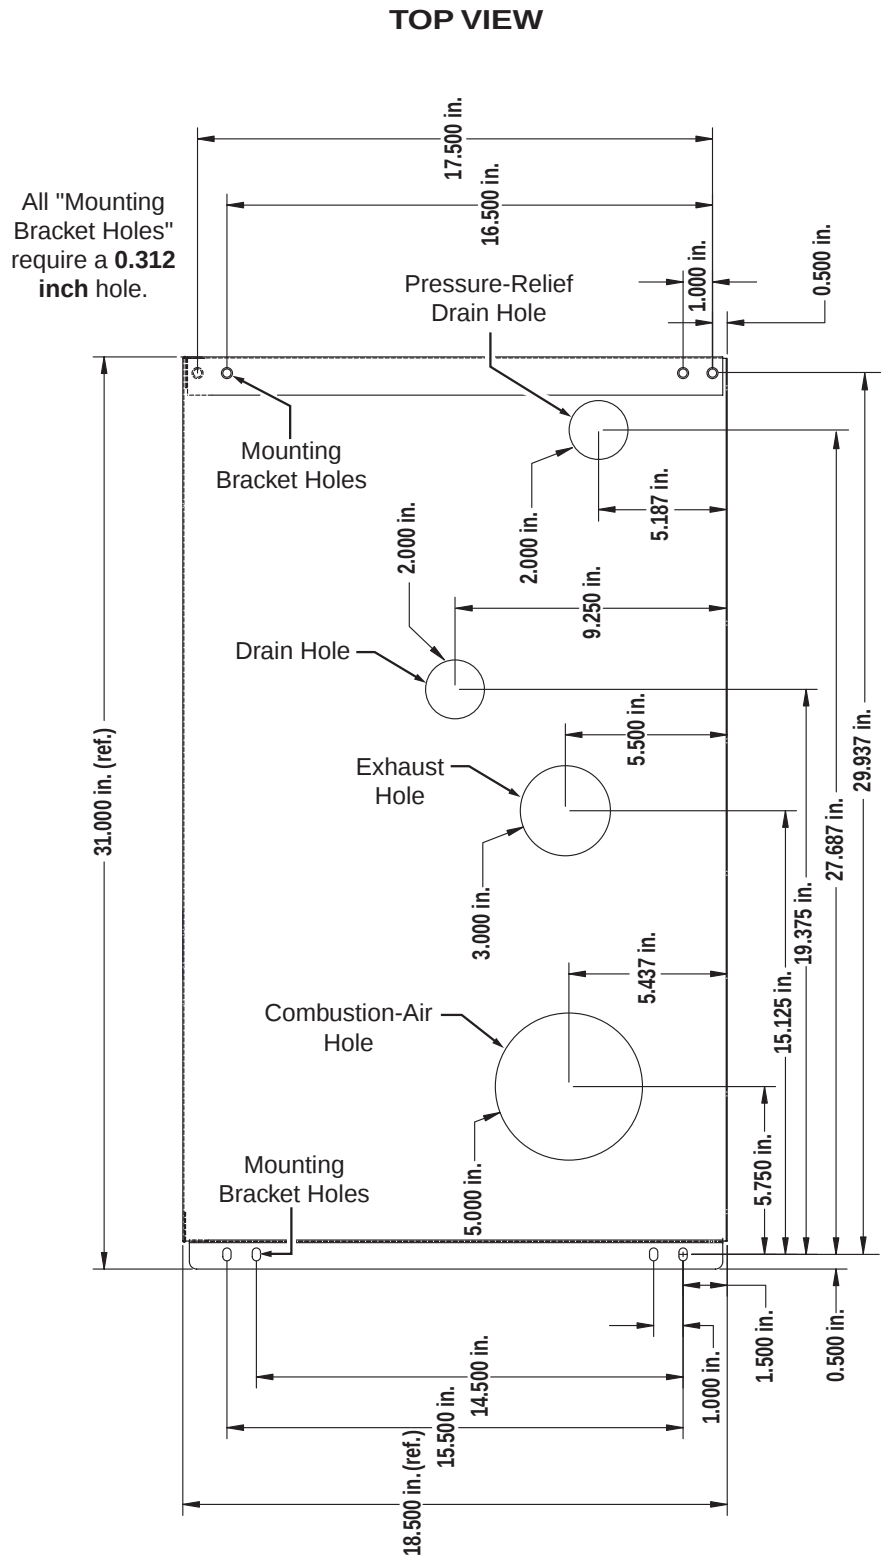

Figure 4
- Required size and location of the Combustion-Air Hole, Exhaust Hole, Heat Tank's Drain Hole, and the Pressure-Relief Valve Drain Hole, see Figure 4.
- Required size and location of the Mounting Bracket Holes, see Figure 4.
1. Drill all the necessary Holes prior to mounting the Hydro-Hot permanently into place, see Figure 4.